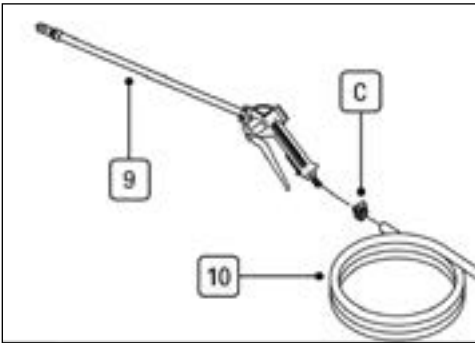

Fig. 9
6.4 Fitting Spray Gun to Hose (Fig.9)